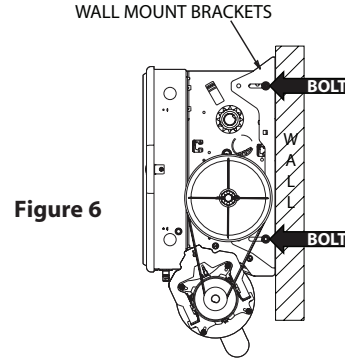

Figure 6
The RSX™ Rolling Steel unit can be wall mounted when required. **Fig. 6.**
- 1) Attach wall mount brackets to operator using the 4 mounting bolts and nuts supplied (Hand-tighten until later). Position the operator with the brackets as shown. **Fig. 6.**